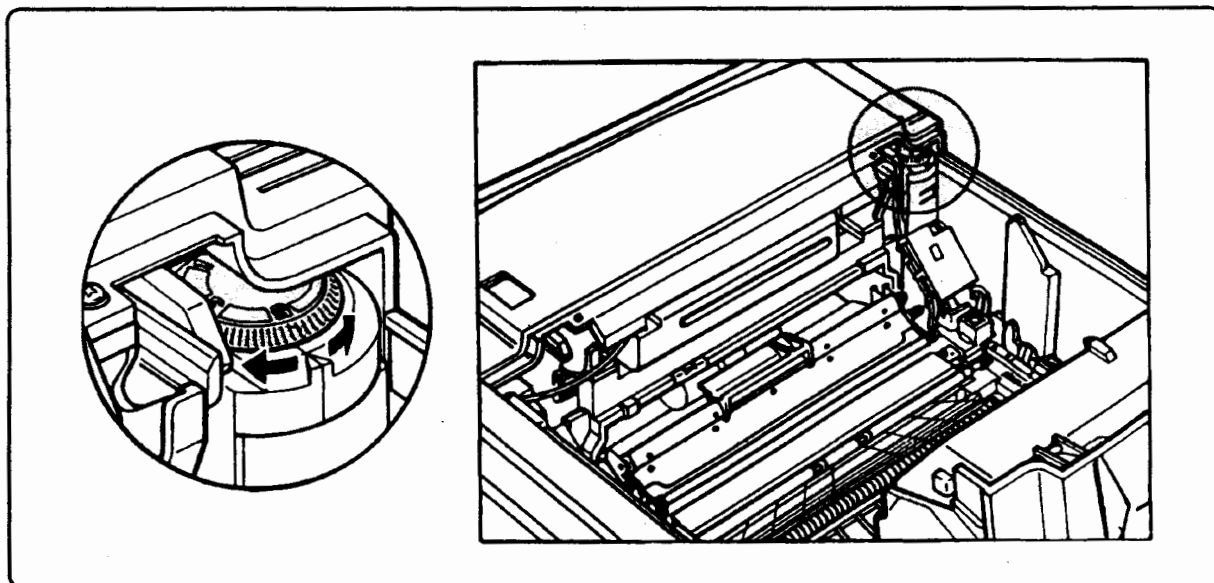

Figure 4-17. Adjusting Print Density
2. Use the numbered green dial located at the left side toward the front of the printer (see Figure 4-17) to adjust density: "1" is the darkest setting, "9" is the lightest. An initial setting of "5" is recommended.